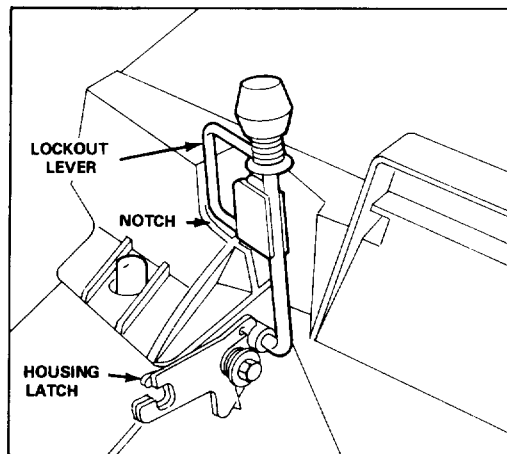

Figure 6
3. Squeeze lockout lever until it clears the housing latch (Fig. 6). Then move handle rearward until lockout level locks in notch at rear of bag door (Fig. 6). The chute door in mower housing is now open and mower is ready to bag grass clippings.